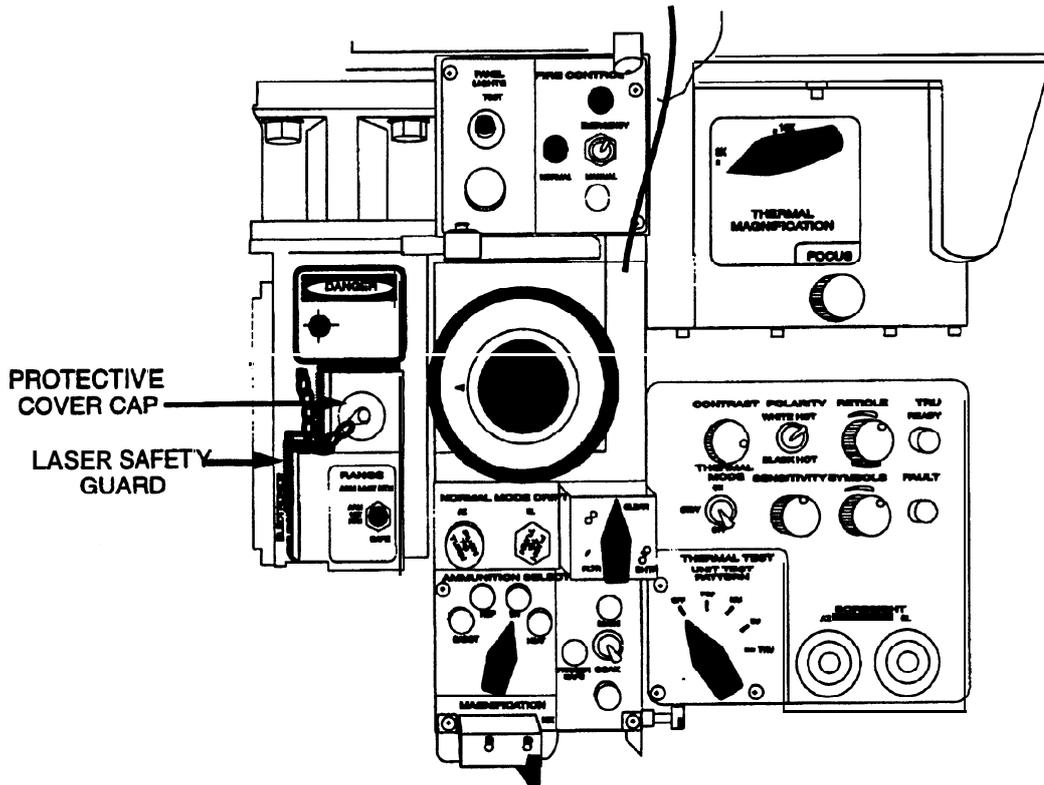

Figure 2-42. Laser Range Finder Switch Facade
2.4.7.4.1.4 Laser Range Finder Switch Facade Installation. The LRF switch facade is part of the GPS Control Panel facade, which also includes the GPS **FLTR/CLEAR/SHTR**, switch, GPS **MAGNIFICATION** lever, and GPS **Reticle Intensity** knob facades. Install the LRF switch facade (see Figure 2-42) as follows: